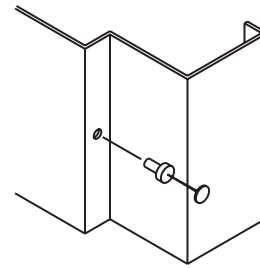

Figure 5 – Rubber silencers
4.1 Install rubber silencers where required (see Figure 5)